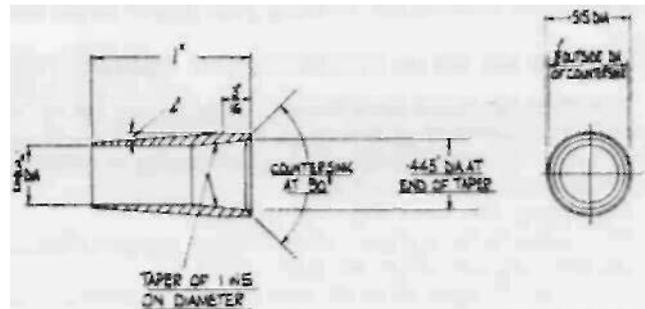

FIG. 17
**Camshaft bushes.** These rarely wear, do not be misled by waggling the camshaft supported in the back bush only, the bush is short and some movement will be manifest even with a new bush. Press in new bushes from inside the crankcase with oil holes lined up. Both bushes are located flush with the crankcase. When new they should be reamed *in situ* to  $\frac{1}{2}$ " + .0005" - .0005". If new bushes are used assemble the camwheels, fit the timing cover tightly and check camwheel for end float and free movement. Use a shim washer 016847 to absorb end movement. End play can dislodge the metal cap on timing cover by hydraulic. Renew the oil seal (see Fig. 17 for tool used for fitting).
**Refitting the timing gear cover.** If there is evidence of oil in the contact breaker compartment, the oil seal 024287 should be replaced. To prevent damage to the oil seal during the process of refitting the cover, a guide tool is shown in Fig. 17. The tool is fitted over the shaft for the cam wheel, with a little oil on it to guide the seal over the shaft. The seal should be fitted in the cover with the metal backing facing outwards. Clean the face of the cover and stick a new gasket to it. The cover 024016 can now be put back with three screws 000482.